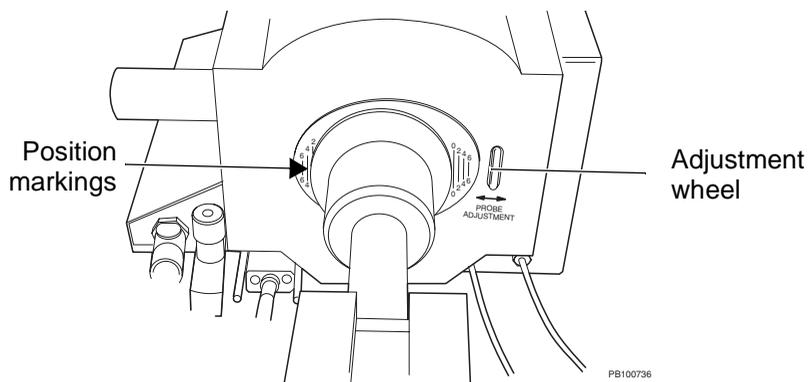

Figure 2-11 Lateral Probe Gauge Markings on Right Side of Spray Chamber
1. Locate the adjustment wheel behind the black collar (Figure 2-11). Note the position markings on the spray chamber housing.